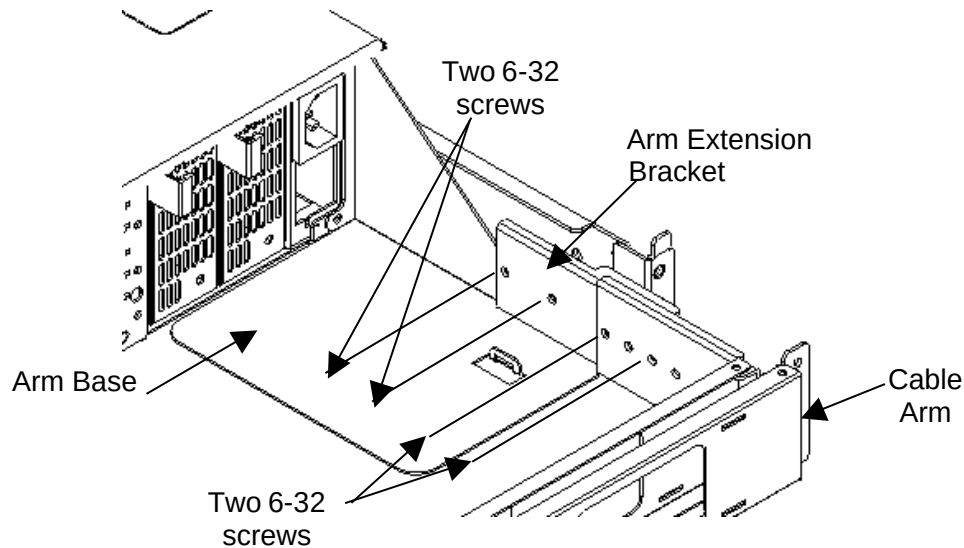

Figure 2-27. Attaching the Arm Extension Bracket to the Arm Base
3. One end of the cable arm includes a long hinged bracket with six mounting holes. The other end of the cable arm includes a small hinged bracket with two mounting holes. Using two 6-32 screws attach the end of the cable arm with the long hinged bracket to the Arm Extension bracket. See Figure 2-27.